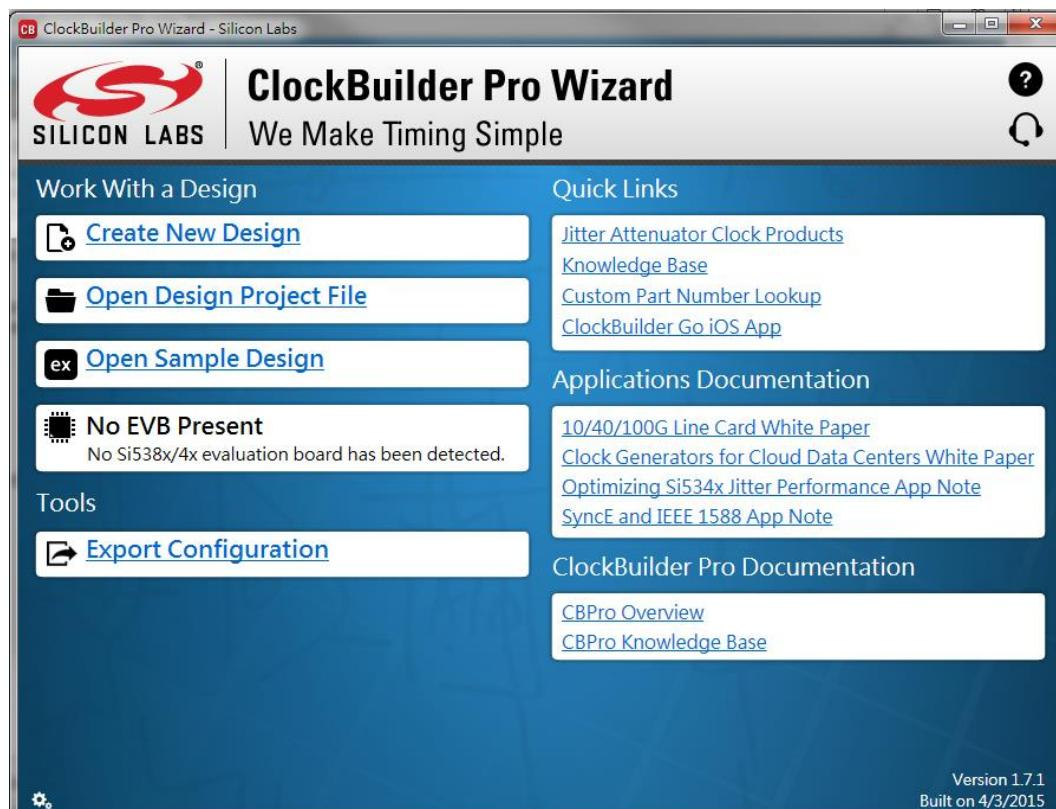

Figure 5-5 ClockBuilder Pro Wizard
1. Firstly, download ClockBuider Pro Software (See **Figure 5-5**), which is provided by Silicon Labs. This tool can help users to set the Si5340's output frequency of each channel through the GUI interface, and it will automatically calculate the Register parameters required for each frequency. The tool download link: